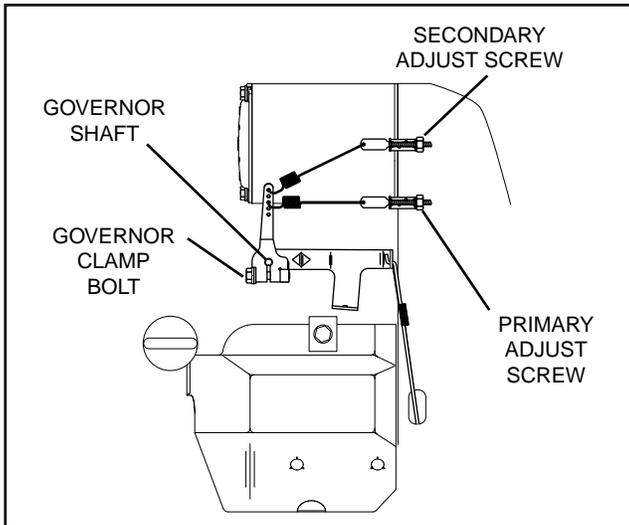

Figure 10. Engine Governor Adjustment Single Cylinder Engines
1. Loosen the governor clamp bolt (Figure 10).